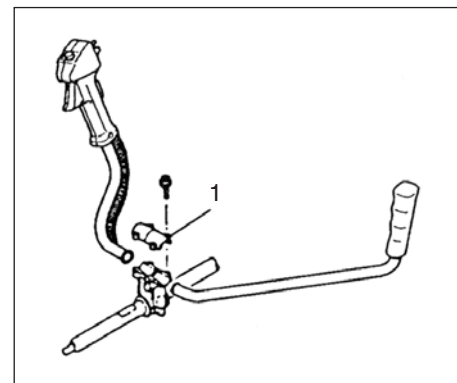

Fig. 1-2
Installation of handle (Fig. 1-2)
Remove the handle bracket (1) from the assembly. (Fig. 1-2)